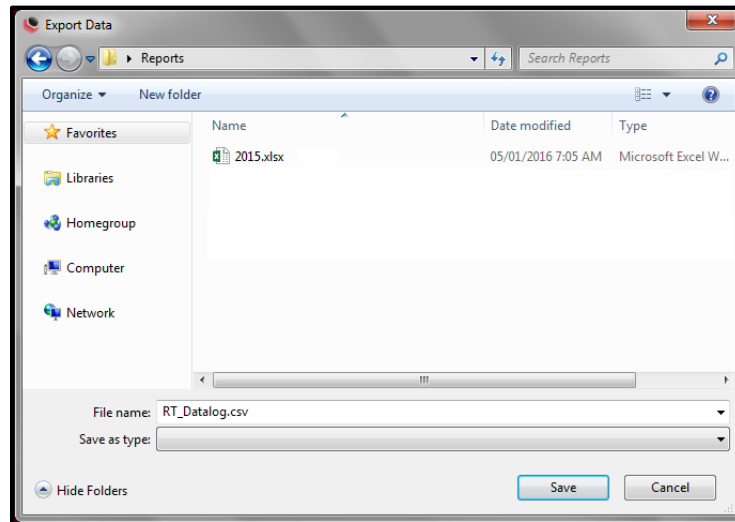

Figure 5.7-3: Saving the Data Log
- When confirmed **"Yes"** or **"No,"** a file browser will be opened asking for a location to save the file (Figure 5.7-3).